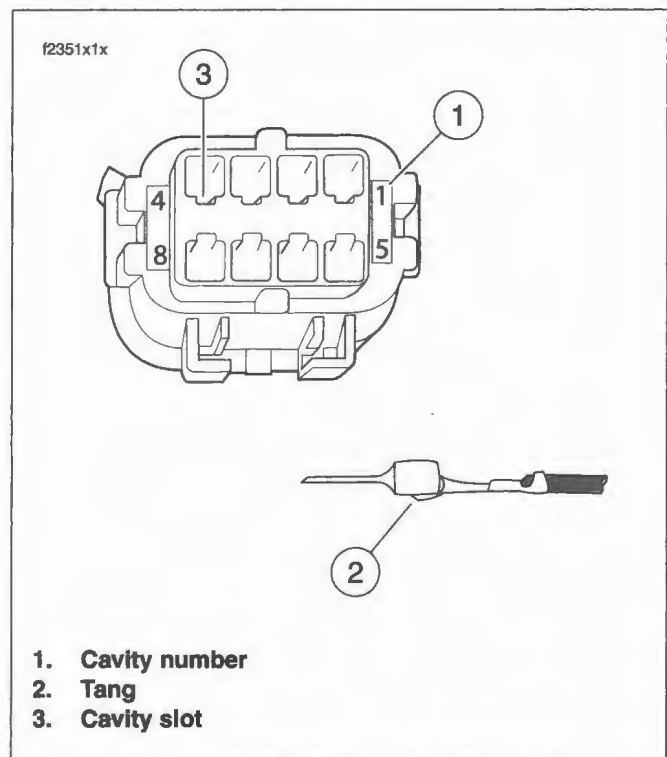

Figure B-42. Molex PIN Cavities and Wire Terminal
1. See Figure B-42. From the wiring diagram, match the wire color to its numbered terminal cavity.